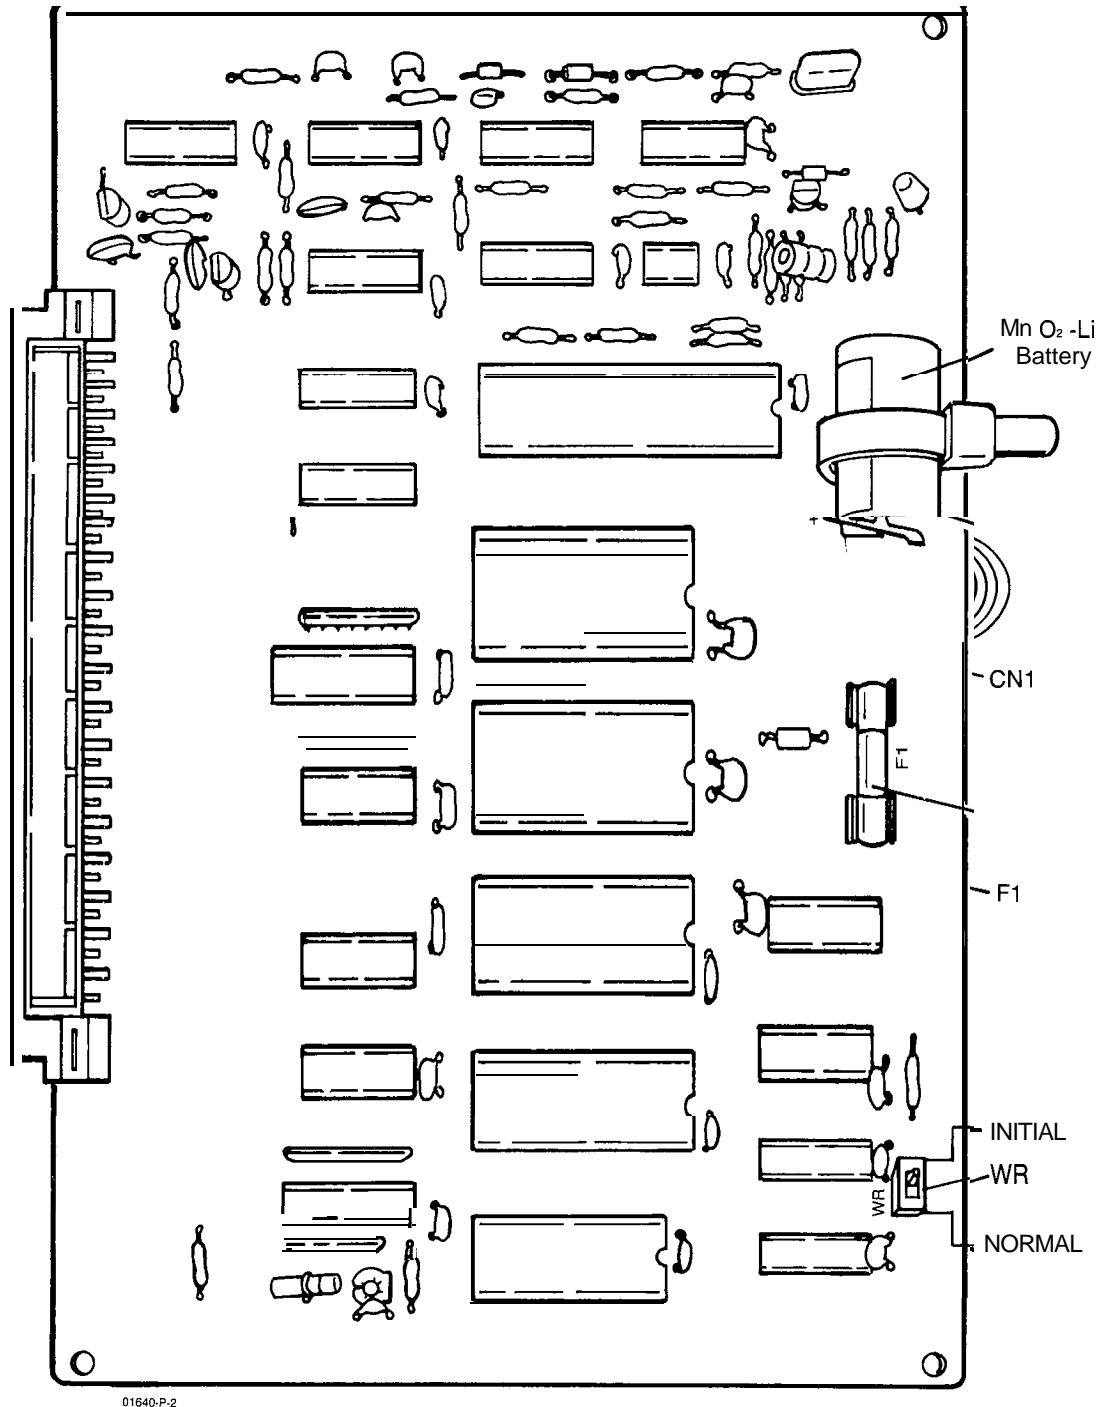

FIGURE 2-5 PROGRAMMING SWITCH WR, B-MPU- PCB
2. Place the WR switch in the up position (initial position (see Figure 2-5 Programming Switch WR, B-MPU-PCB)).